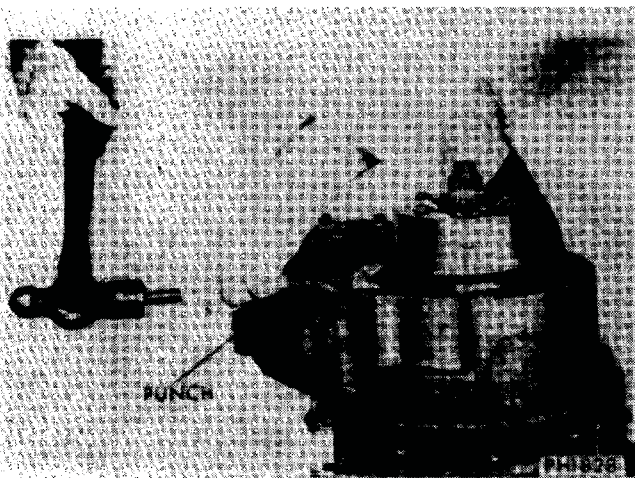

Fig. 13—Removing Retaining Pin
(6) Remove differential housing retainer bolts and disengage assembly from transfer case. Remove and discard gaskets.
(7) Slide carrier unit from shaft. 1-1/2 to 2 inch band type hose clamp may be installed on the input shaft to prevent losing bearings when removing input shaft assembly from the range box.
(8) Raise shift rail and drive retaining pin out of shift fork (Fig. 13).